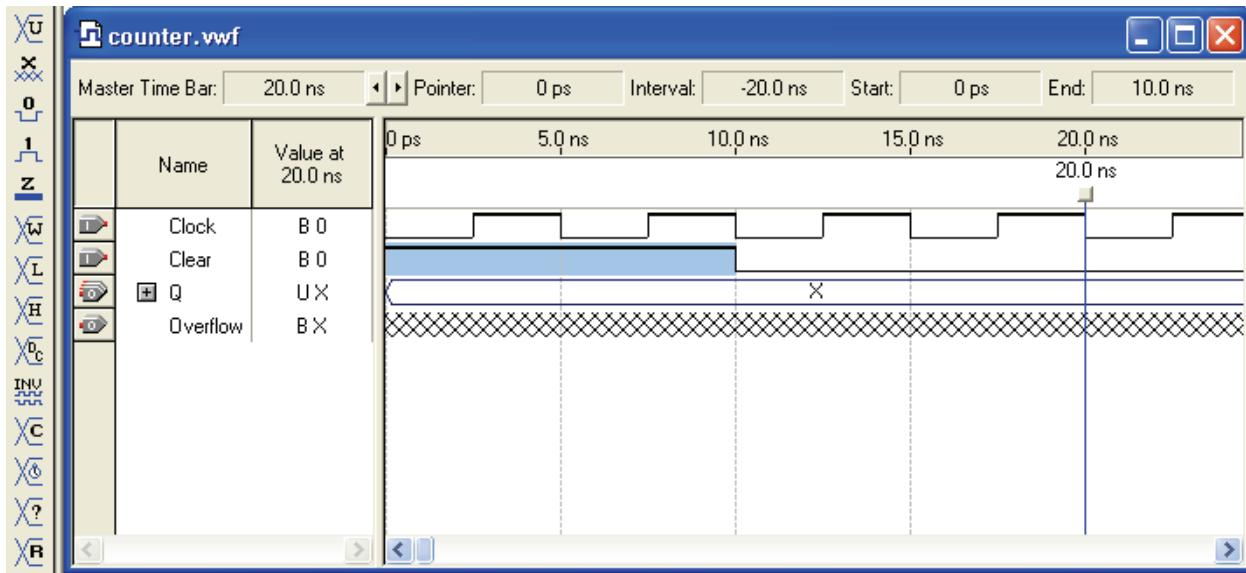

Figure B.9 Changing the input signal values.
2. Click on the **Clock** icon in the toolbar on the left to define the `Clock` signal. Leave the time period at 5.0 ns. Click **OK**, and observe the changes made to the `Clock` signal as shown in Figure B.9.